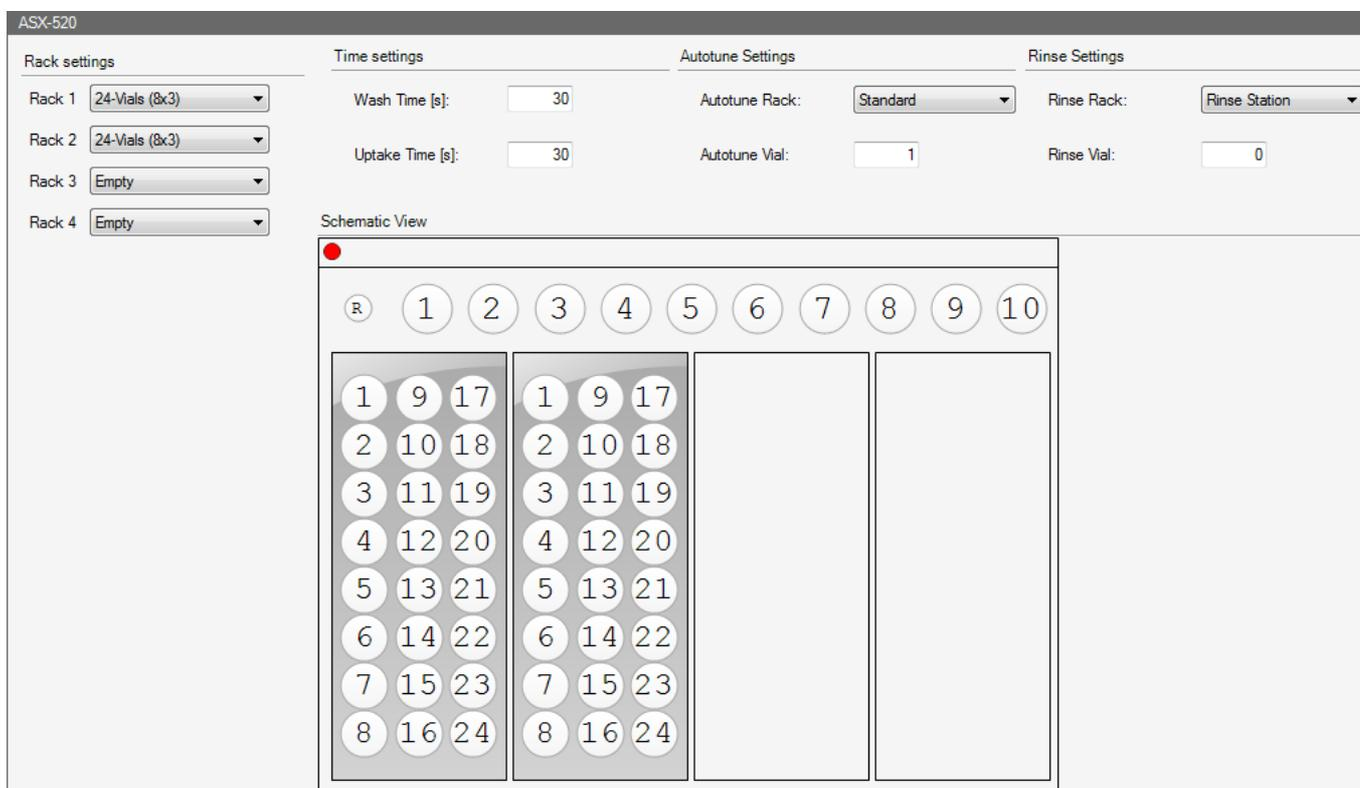

Figure 14-1. Teledyne CETAC ASX-520 settings
2. Click  to open the autosampler view, see Figure 14-1.